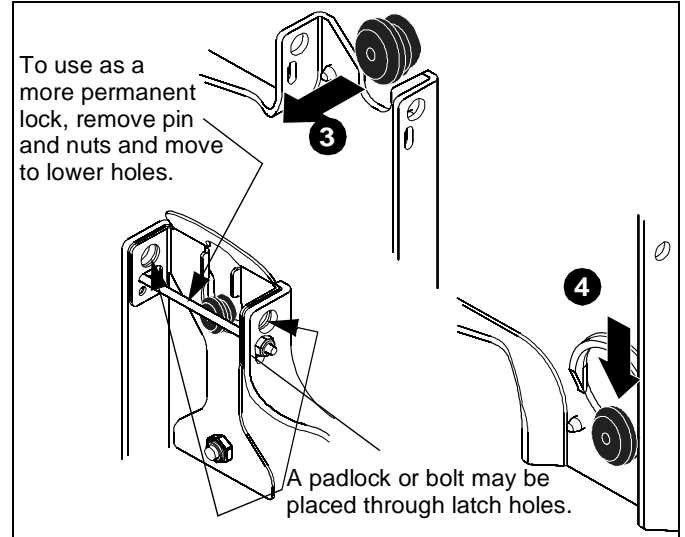
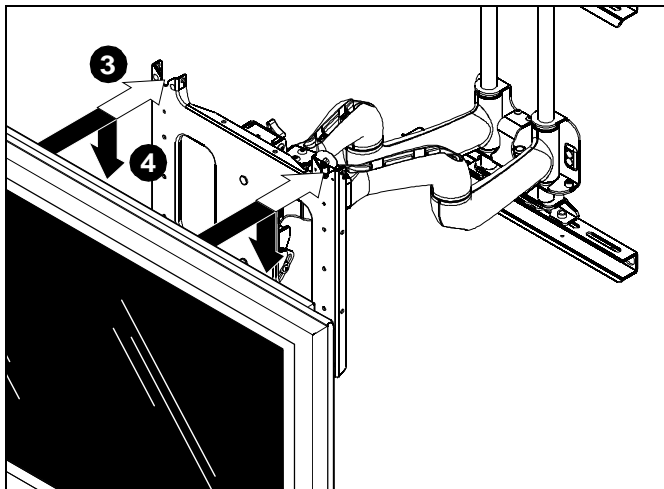

Figure 7
Figure 6
3. While supporting both sides of display, align four mounting buttons on display or interface bracket with four mounting holes in faceplate. (See Figure 6) and (See Figure 7)
4. Lower display into place listening for audible "click" to ensure recessed area of mounting buttons are properly seated in lower area of mounting holes and ClickConnect mechanism engages. (See Figure 6) and (See Figure 7)
NOTE: Holes are provided in the faceplate for use with a padlock or similar locking device, if desired. In addition, the pin and nut may be removed from the upper holes and moved to the lower holes for use as a more permanent locking device. (See Figure 7)